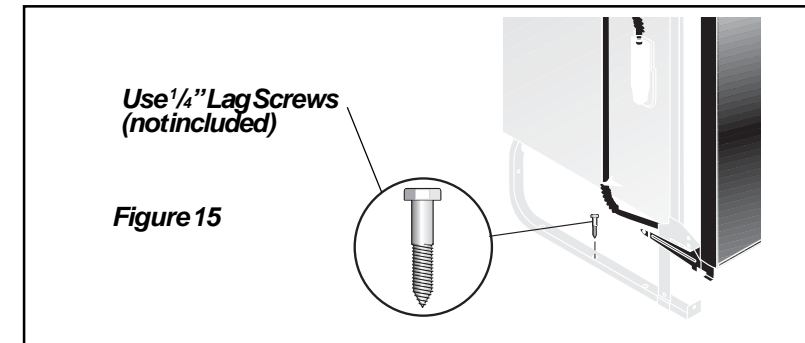

Figure 15
1. Screw 1/4" lag screws, (not included), through holes provided in frame rail. See Figure 15.